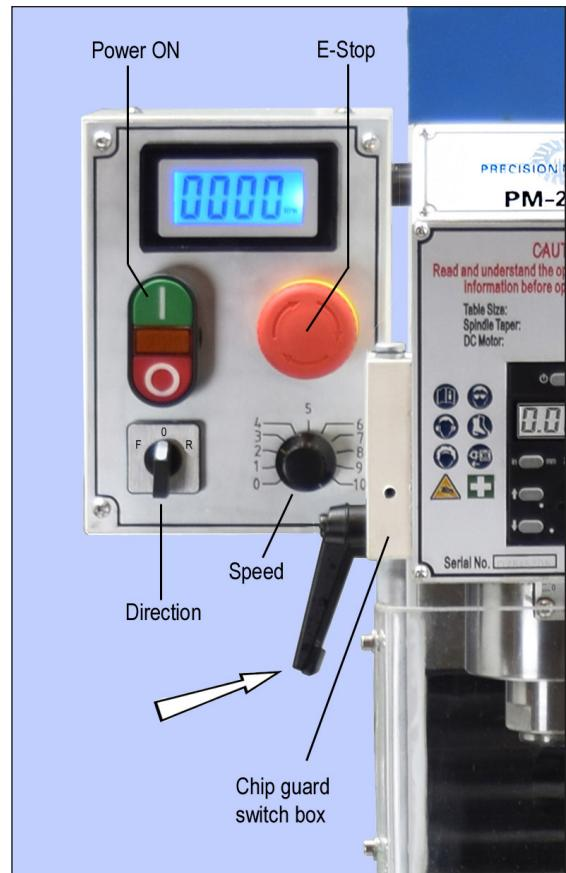

Figure 3-1 Spindle motor controls
For milling operations the lever hub is not rotated by lever action. Instead it is locked to a worm wheel, which is turned by the fine control knob. This allows the quill to be driven precisely to any desired position. The fine control knob, because it drives through a worm, cannot be back-driven by return-spring action on the quill (in other words, it stays where it's put). For milling operations the quill should be locked by the lever on the left of the headstock, Figure 3-1.
Rotate the fine control knob (2) to raise or lower the quill. Lower the quill by rotating the fine control knob clockwise, positioning it precisely either by counting divisions on the graduated dial, or by reference to the digital readout (DRO), Figure 3-1. Use the locking lever left of the headstock to hold the quill firmly in position.